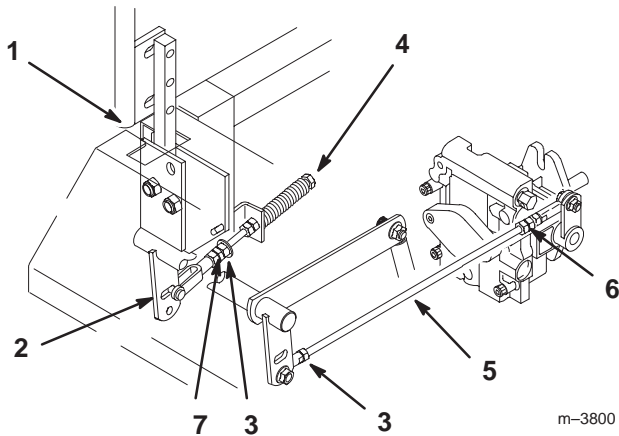

Figure 48
2. Begin with either the left or right motion control lever. Move lever to the neutral (but not locked) position and pull lever back until the clevis pin (on arm below pivot shaft) contacts the end of the slot (just beginning to put pressure on spring) (Fig. 48).
3. Check where lever is relative to notch in console (should be centered allowing lever to pivot outward to the neutral lock position) (Fig. 48).
4. Loosen locknut at ball joint on pump control rod (Fig. 48).
6. Adjust pump rod length by rotating double nuts on rod, in the appropriate direction, until wheel is still or slightly creeps in reverse (Fig. 48).